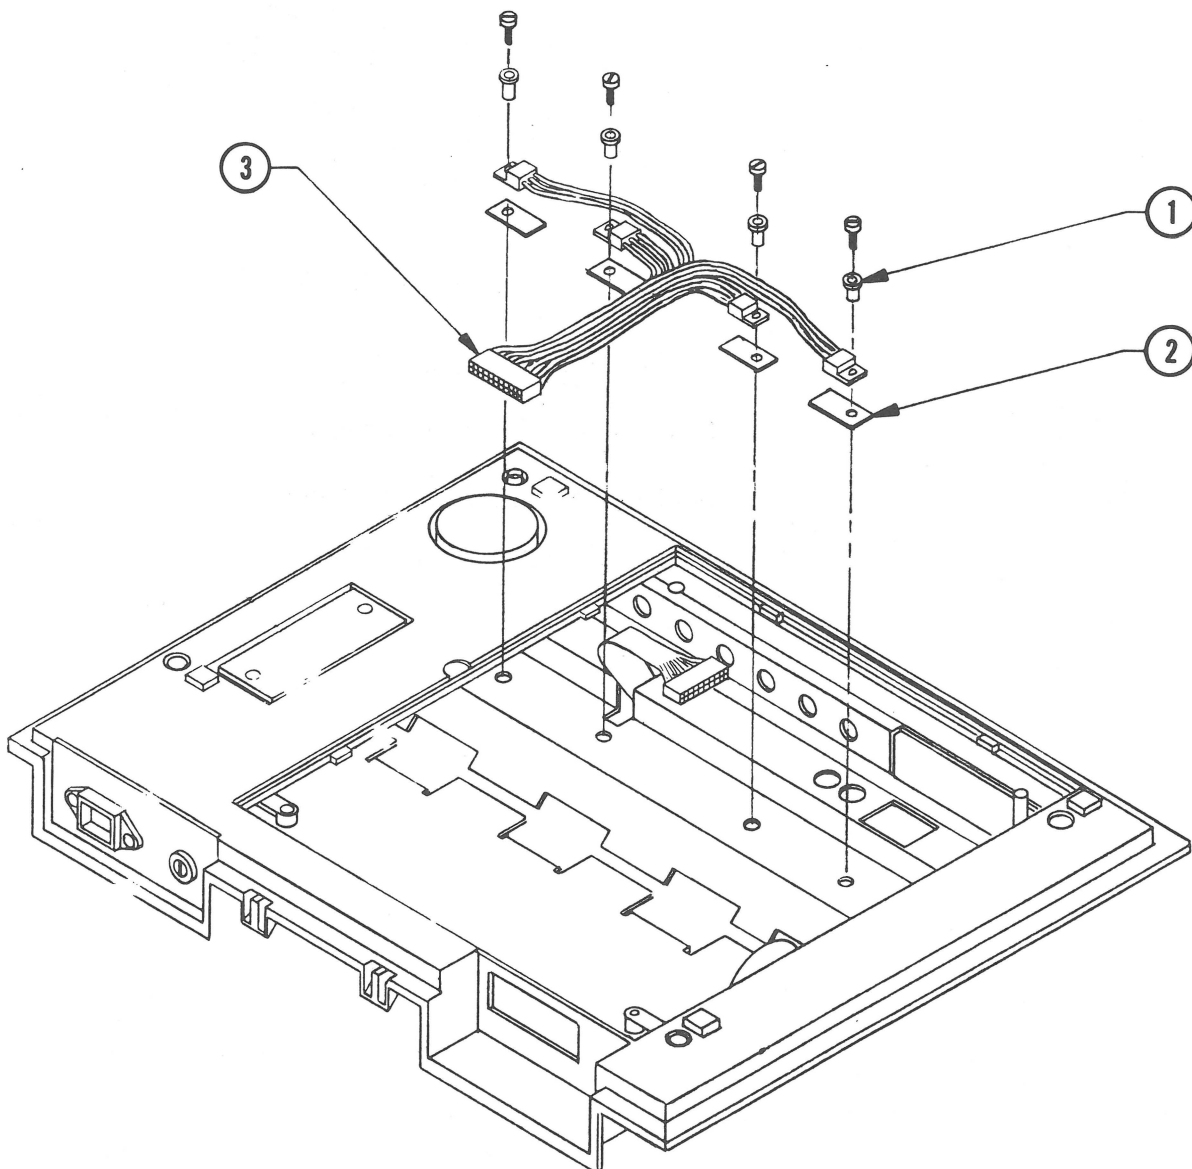

FIGURE 39
2. Turn the printer upside down. With the CPU PC board removed, locate the carrier drive transistor assembly (Figure 39, #3), which includes connector, cable, and four transistors.
IMPORTANT: *Save the plastic insulators (Figure 39, #2), the washers (Figure 39, #1), and the screws. Do not install them on the return module.*